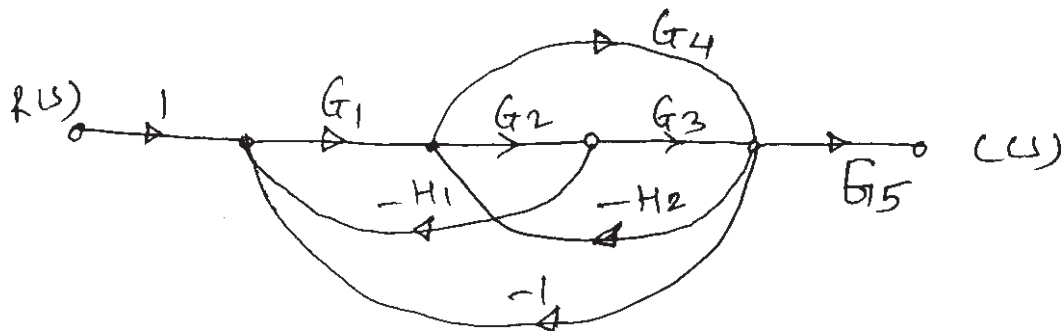

Fig.Q.2(a)
- Q2) a)** Obtain the transfer function $\frac{C(S)}{R(S)}$ using Mason's gain formula for the system shown in Fig. Q.2(a) by signal flow graph. [8]